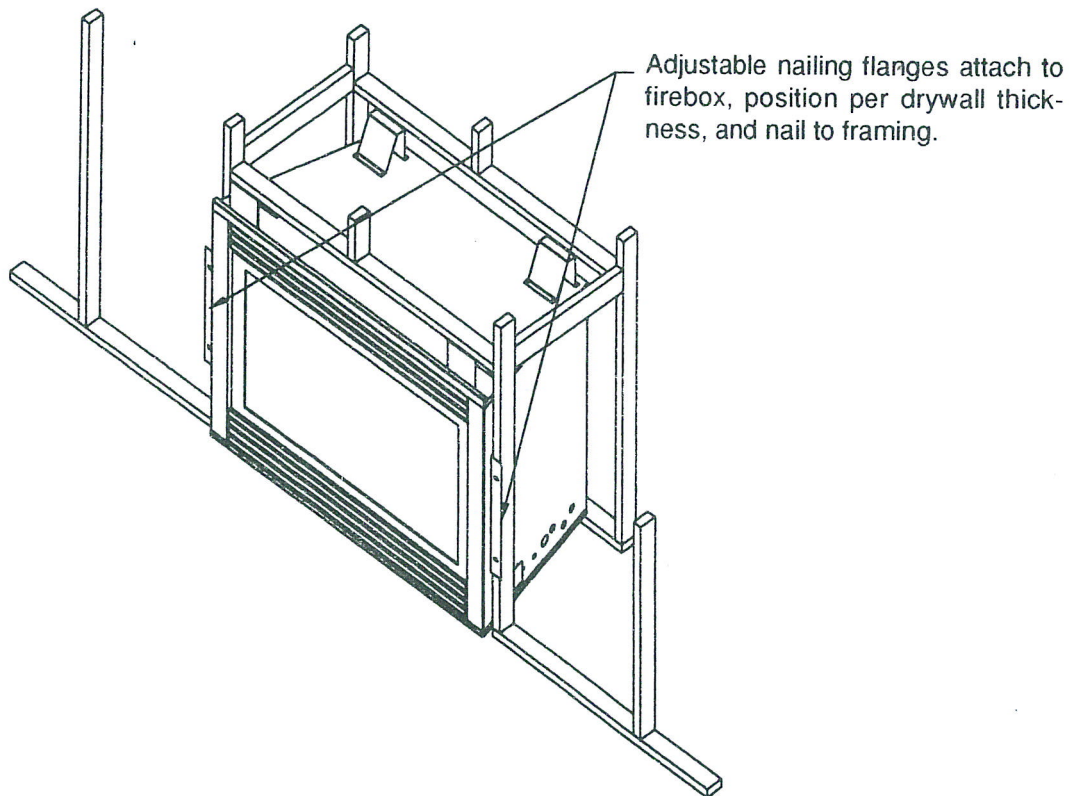

Figure 8: Positioning the Fireplace
- Step 4.** Anchor firebox to the side framing members using 8d nails or other suitable fasteners. Refer to Figure 8 below.